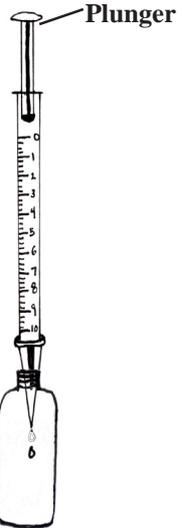

Figure 3-15:
5. Replace the cap and reinsert the titrator (syringe Figure 3-15), again be very careful not to disturb the titrator. With the tip of the titrator inserted into the opening of the titrator tube cap, slowly depress the plunger to dispense the Sodium Thiosulfate titrating solution (4169) one drop at a time. Gently swirl the tube to mix the solution.
2. Insert the titrator (syringe) into the plastic fitting of the Sodium Thiosulfate titrating solution bottle (4169) (Figure 3-15).